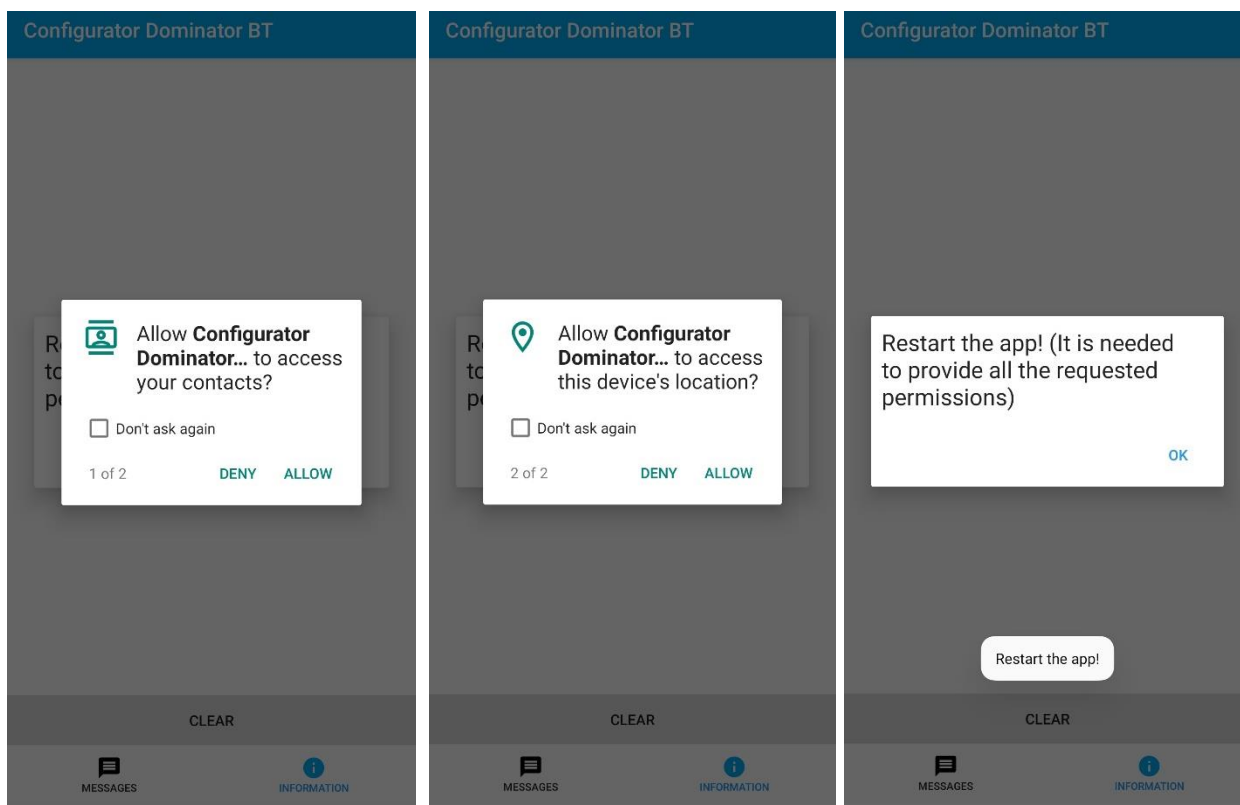

fig. 4.2. App permissions
- provide all the required permissions (fig. 4.2);